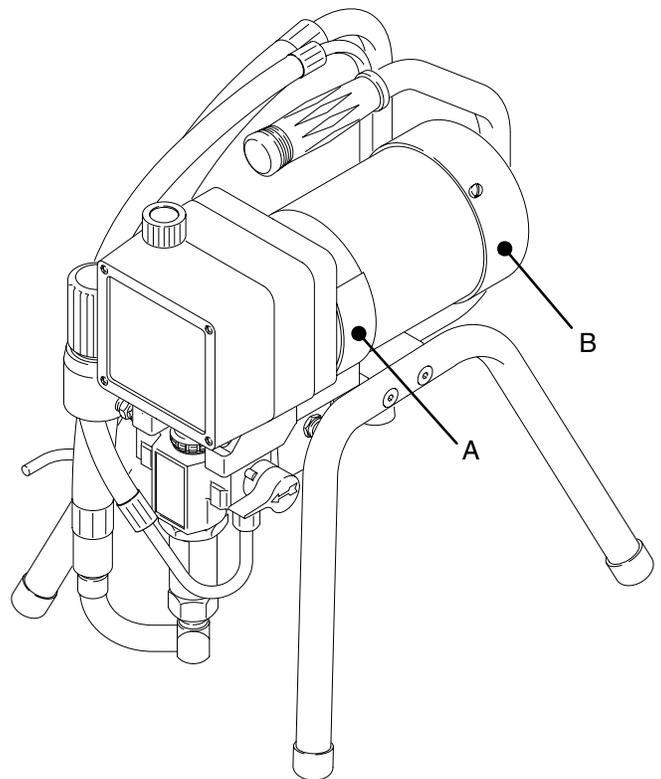

Fig. 11 Model 231-208 Shown
Remove the motor brush inspection covers (A). See Fig. 11.
Remove the fan cover (B). See Fig. 11.